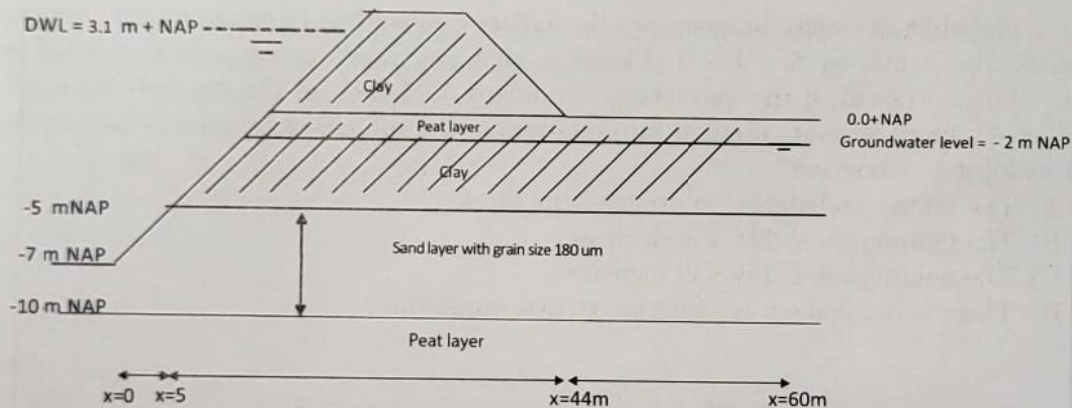

Figure 2: Cross sections of clay dike
Given the clay dike with dimensions in Figure 2. Compute if this dike is safe for uplift. What are the values of the Load (corrected for the partial safety factor) and the Resistance? and would you expect uplift to occur?
- 2.1 (4 points) Given the clay dike with dimensions in figure 2. Calculate if this dike is safe for piping under design conditions using the Sellmeijer (2011) equation. Sea level rise, local surge, uncertainty additions and settlement can be neglected, but damping of the hydraulic head needs to be taken into account and is given as:  $r_{exit} = 0.7$  at the location of the landward toe of the dike. It is given that  $F_R = 0.37$ ,  $F_S = 0.18$  and the model uncertainty factor for Sellmeijer:  $m_p = 0.95$ , so  $F_G$  still needs to be calculated. What are the values of the critical head difference for piping ( $\Delta H_c$ ) corrected for vertical outflow and the actual hydraulic head difference for piping ( $\Delta H$ ) corrected for damping? Is piping expected to occur?